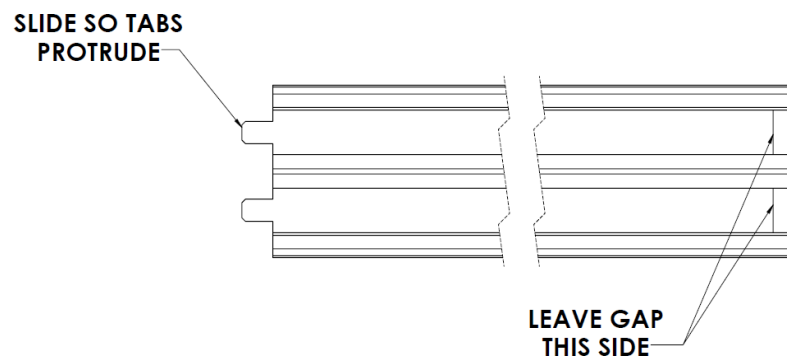

Figure 32: **Slide Metal Strips 1/2" Out of Plastic Insulator**
- d. Slide the metal strips inside the TransStrip back, so the male terminal tabs protrude from the plastic insulator (Figure 32).